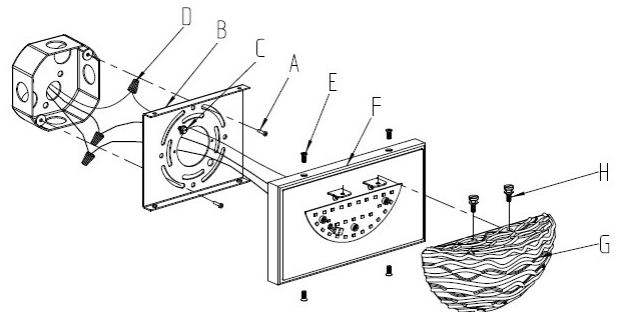

Fig. 2
CONNECTION THE WIRES (Fig. 2)
4. Connect the electrical wires as shown in Fig. 2, making sure that all wire connectors are secured. If your junction box has a ground wire (green or bare copper), connect the fixture's ground wire to it. Otherwise, connect the fixture's ground wire directly to the mounting plate (B) using the green screw provided.